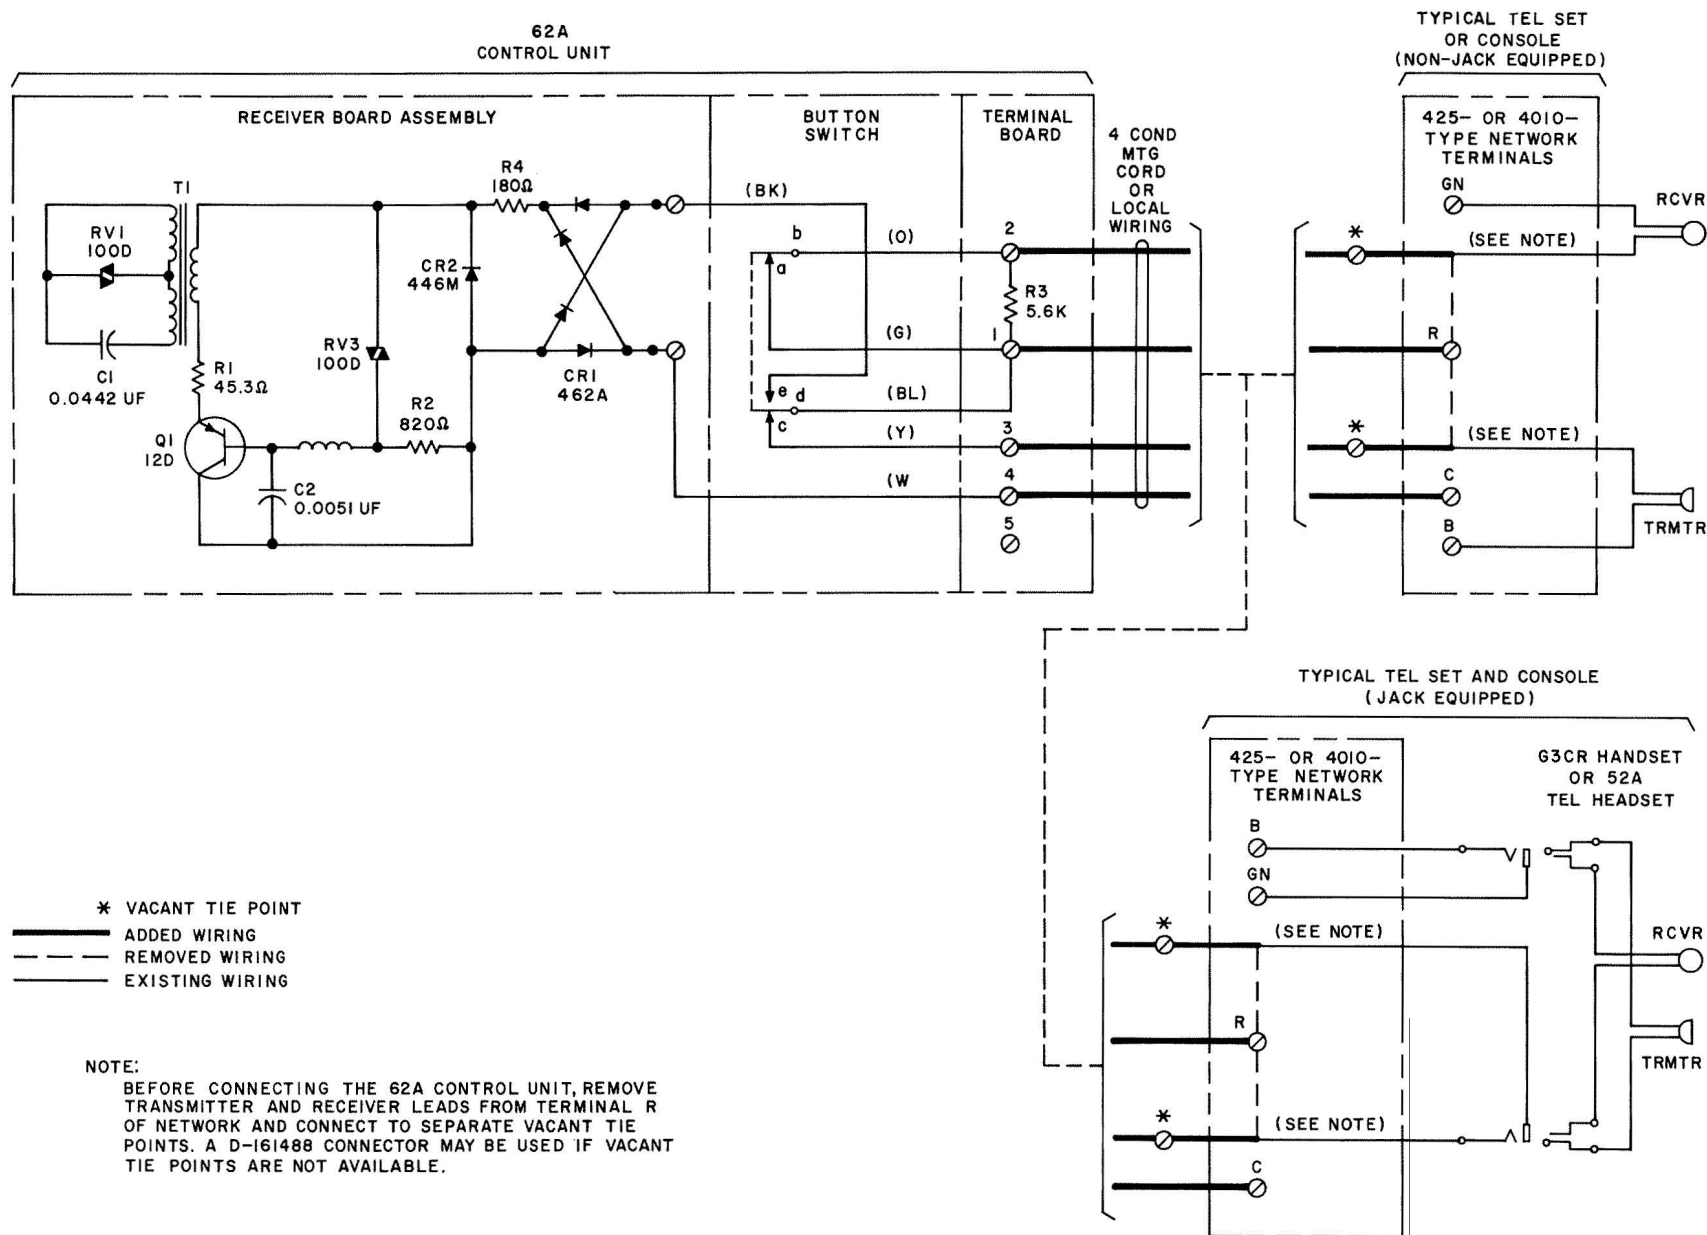

Fig. 3—62A Control Unit, Connections
4.01 Refer to Fig. 3 when connecting control unit to station sets equipped with 425- or 4010-type networks.